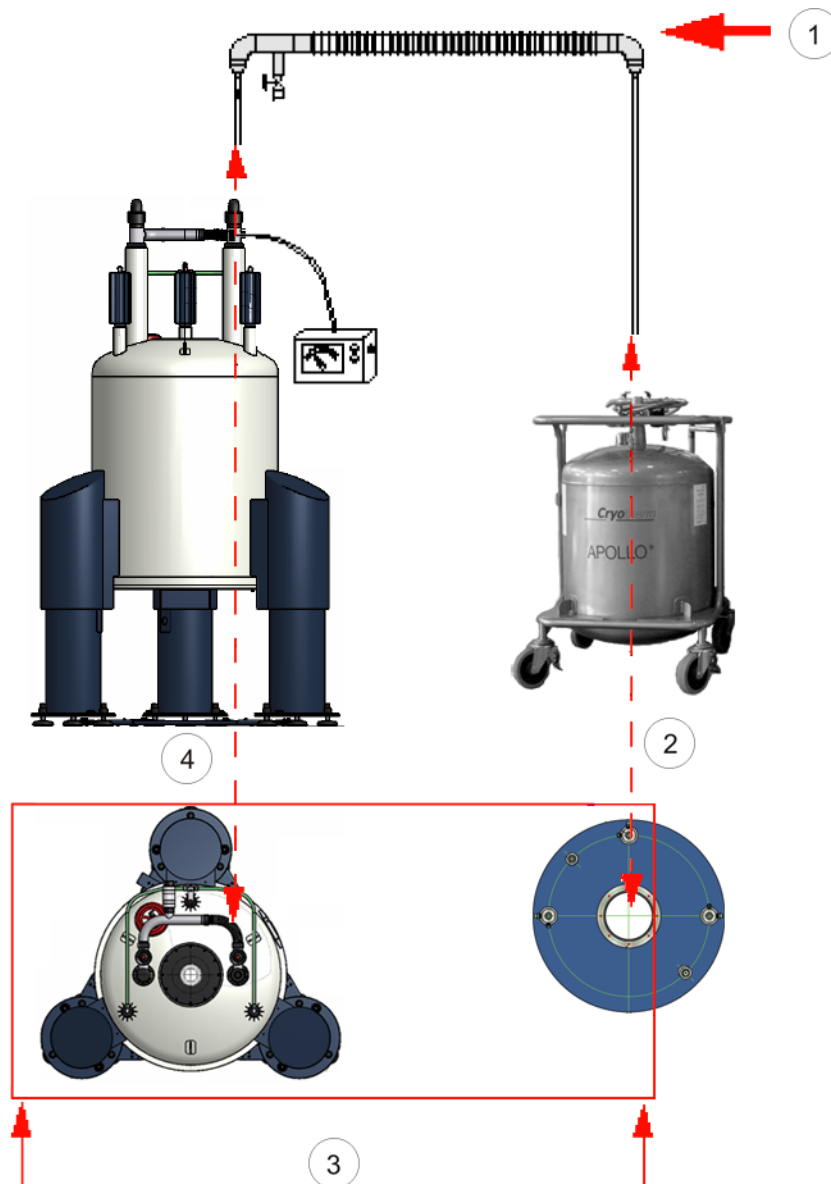

Figure 5.2: Ceiling Height Requirements
- The ceiling height requirements for the magnet installation and cryogen refills do not need to be met over the entire NMR room. Figure 5.2 illustrates that the height requirements need only be met immediately above the magnet, over an area to allow for assembly of the lifting system (if applicable), and over an area to allow for insertion of the helium transfer line.